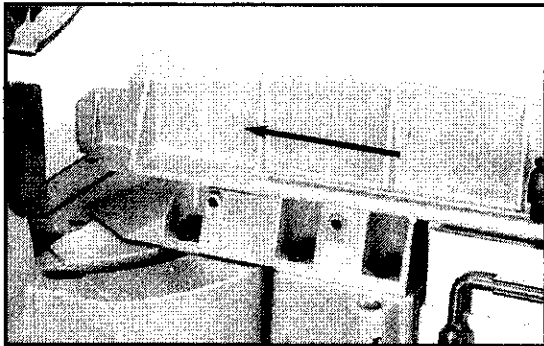
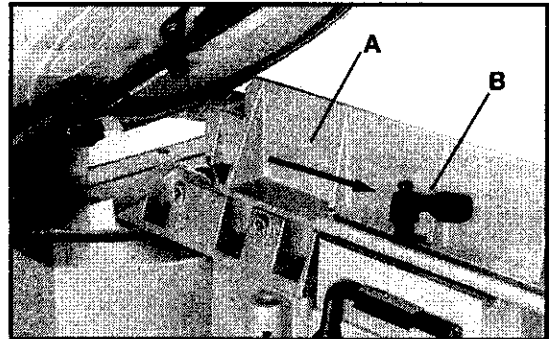

Fig. 25A
Fig. 25B
The high sliding fence (A) Fig. 25A, provides support for extra large workpieces used with your saw and should always be set as close as possible to the saw blade. When miter cutting (blade set 90 degrees to the table and at an angle to the right or left), the fence should be set all the way toward the blade, (Fig. 25A). When bevel cutting, however (blade tilted at an angle to the table), the fence (A) Fig. 25B, should be moved away from the blade to allow for proper clearance for the saw blade and guard, (Fig. 25B). To accomplish this movement, loosen the lock handle (B), and slide the fence (A) to the desired location. Tighten the lock handle (B).